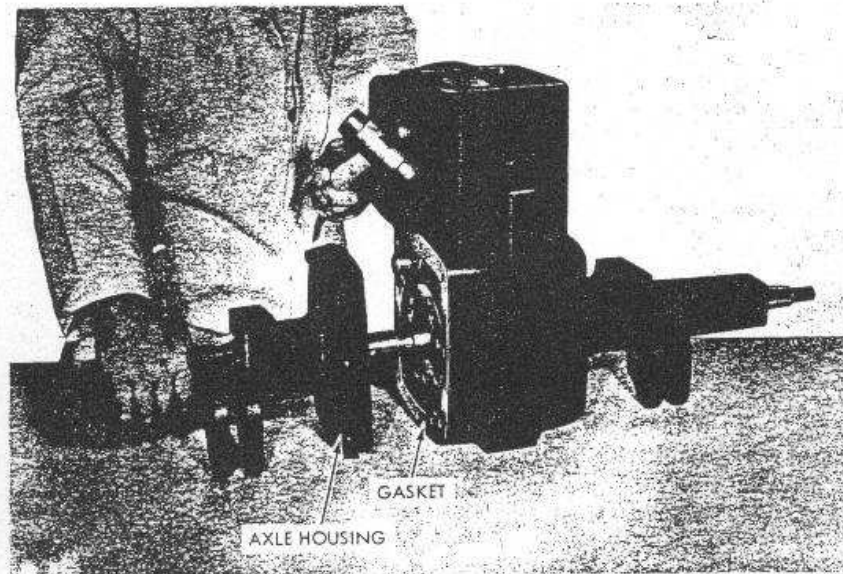

Figure 12
1. Remove eight axle housing bolts (25) securing axle housing to transaxle housing.
2. Tap axle housing lightly with plastic or rawhide mallet to loosen the seal. Slide axle housing off axle carefully to prevent damage to oil seals (Fig. 12).
3. Remove gasket (27) and clean casting surfaces (Figs. 12 and 17).